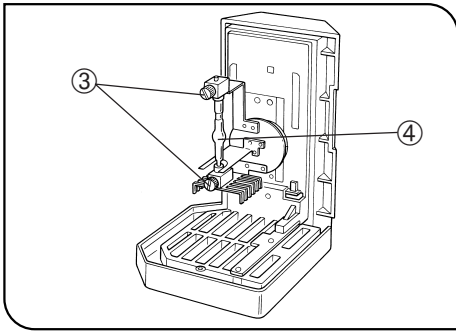

Fig. 13
3. Place the socket section upside down as shown in Fig. 13.